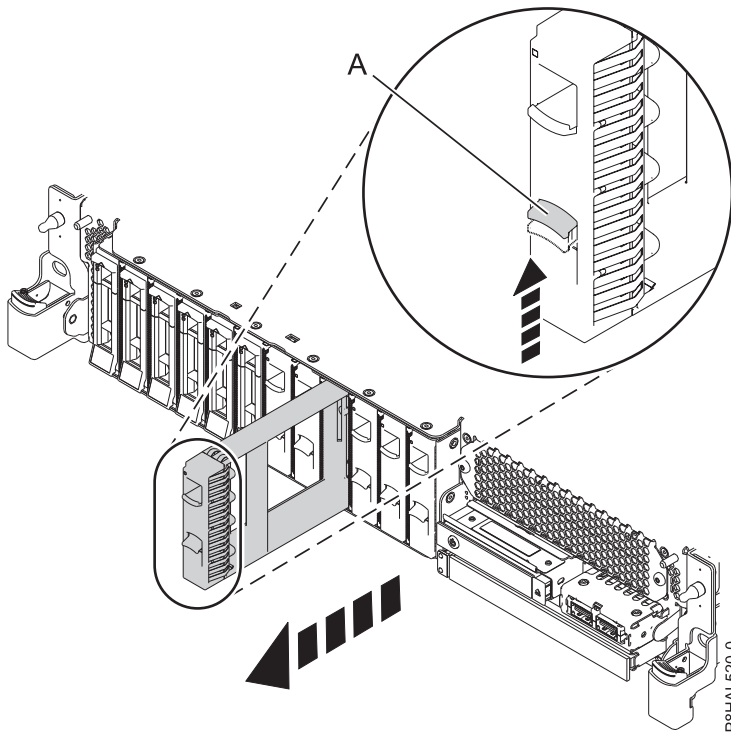

Figure 39. Removing a disk drive filler from a system
3. Push the lock (A) on the handle of the filler in the direction shown in Figure 39.